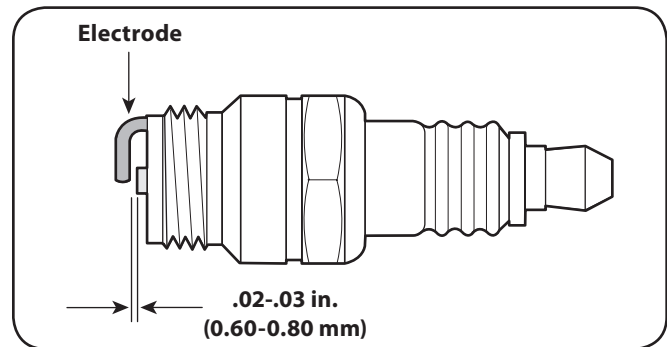

Figure 7-4
3. Measure the plug gap with a feeler gauge. Correct as necessary by bending side electrode, Figure 7-4. The gap should be set to .02-.03 inches (0.60-0.80 mm).